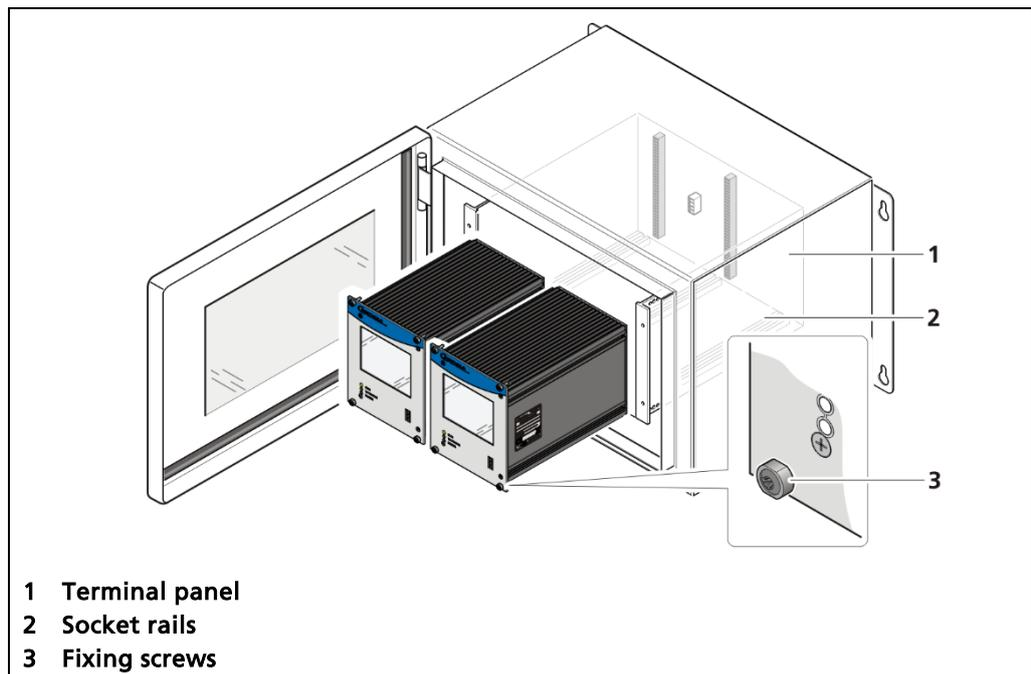

Fig. 10 Installation of the modules (ex.: Terminal panel master-master)
The EVUs modules must be secured by fixing screws (Fig. 10, item 3).
2. Slide the modules carefully into the wall housing until the pin rail on the module is inserted in the socket rail (Fig. 10, item 2).
3. Tighten all the fixing screws (Fig. 10, item 3)